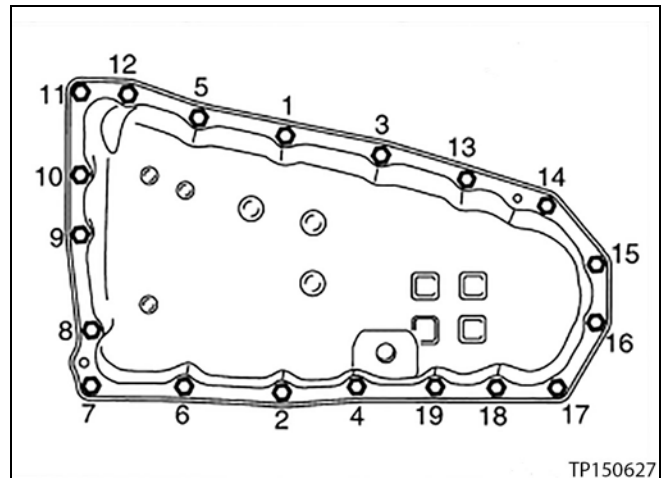

Figure 89
10. Install the oil pan bolts (see Figure 89):